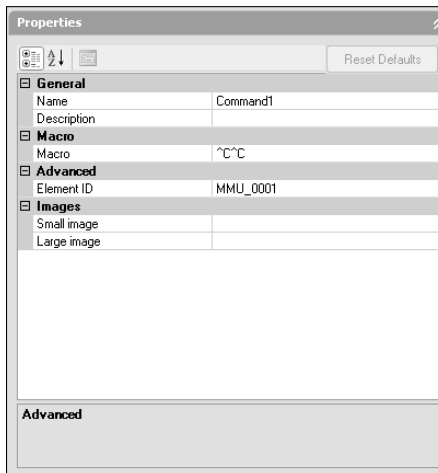

**Figure 33-7:** Specify the properties of a new command in the Properties pane.
3. In the Properties pane, shown in Figure 33-7, complete the following: